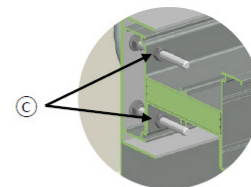

Figure 24. Guide Pins
4. Tighten the upper and lower nuts of the guide-pins. (Figure 24, c)